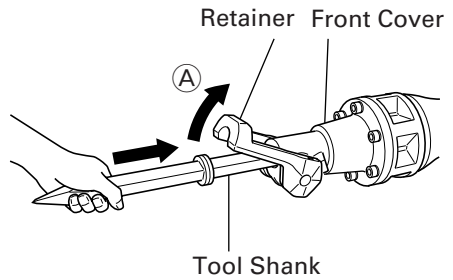

Fig. 3
- (1) Clean, then smear the accessory shank portion with grease or machine oil.
- (2) Move the retainer to open position (A) and seat the accessory, such as a bull point, a cutter, etc., in the hexagonal hole in the front cover (See Fig. 3).